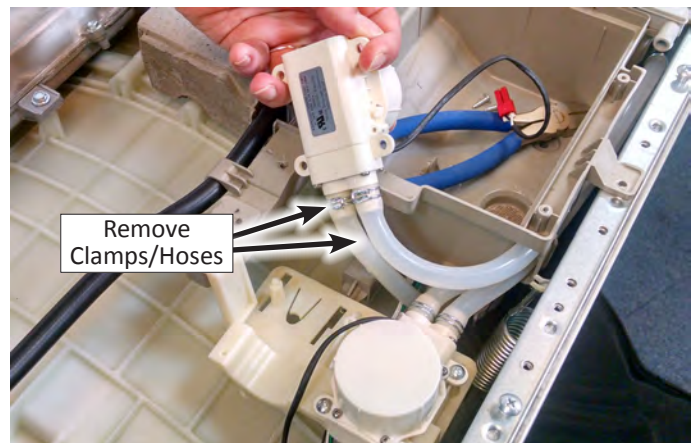

Figure 4
9. Lift up the metering pump to access the clamps and hoses. Disconnect hoses and remove pump (see Figure 4).